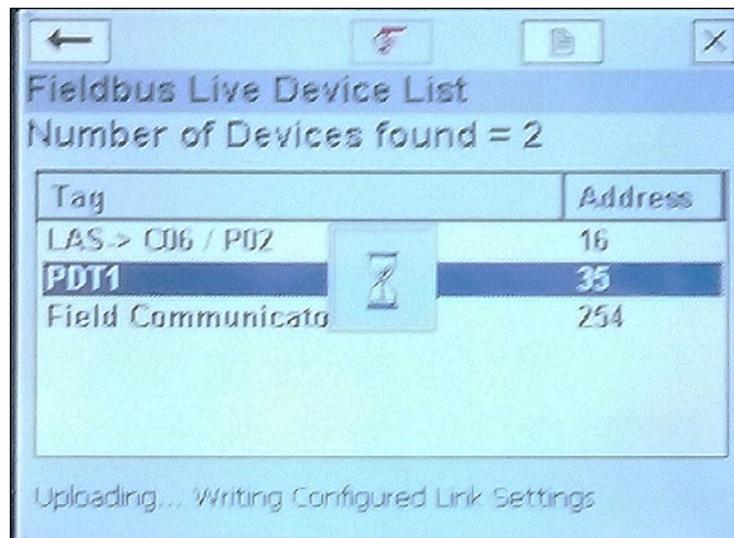

Figure 99 - Device
2. Select the device (Figure 99).